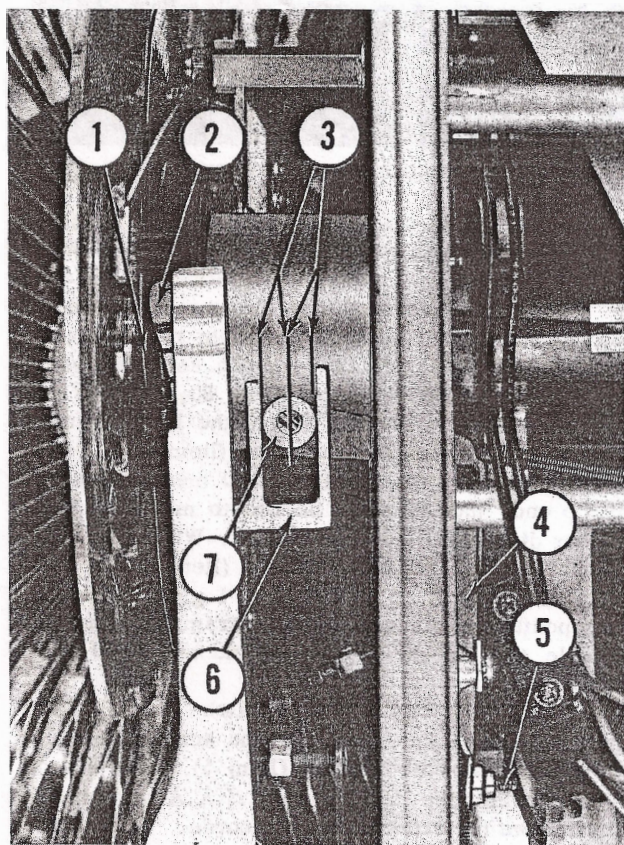

Fig. 78. TONE ARM LATCH LEVER ADJUSTMENT
(2) Tone arm latch bracket adjustment should be accomplished with a perfectly flat record in play position, the tone arm free from the latch bracket ready to play. The feed-in adjusting screw should be centered within the latch bracket (Fig. 78, Item 3). If adjustment is required, turn the adjusting screw (Item 5).